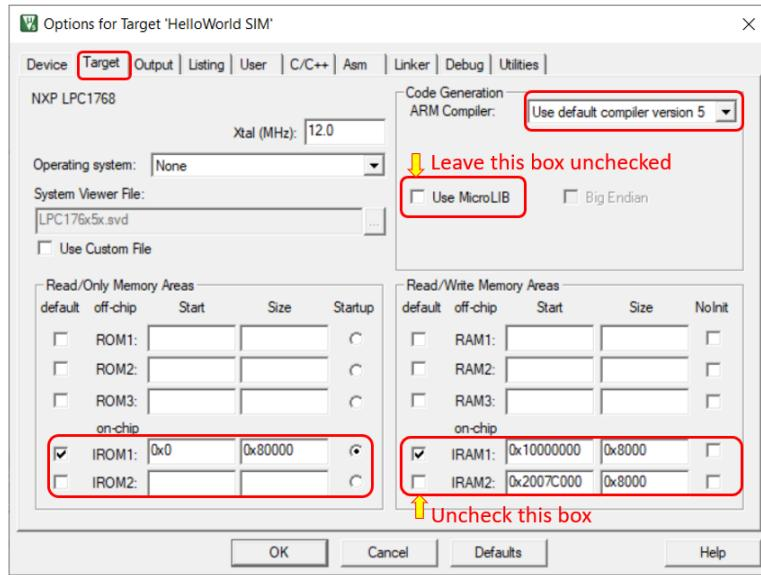

Figure 8.13: Keil IDE: Target Options Target Tab Configuration
3. Configure the Target tab as shown in Figure 8.13. We want to use the default version 5 arm compiler. We also want remove the IRAM2 from the default setting.
The default image memory map setting is that the code is executed from the ROM (see Figure 8.13). Since the ROM portion of the code needs to be flashed in order to be executed on the board, this incurs wear-and-tear on the on-chip flash of the LPC1768. Since most attempts to write a functioning RTX will eventually require some more or less elaborate debugging, the flash memory might wear out quickly. Unlike the flash memory stick file systems where the